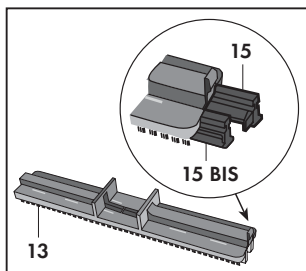

Fig. 14
- Bristled frame (13) with stiff inserts for fitted and loose carpets (15 and 15 BIS). (**Fig. 14**)